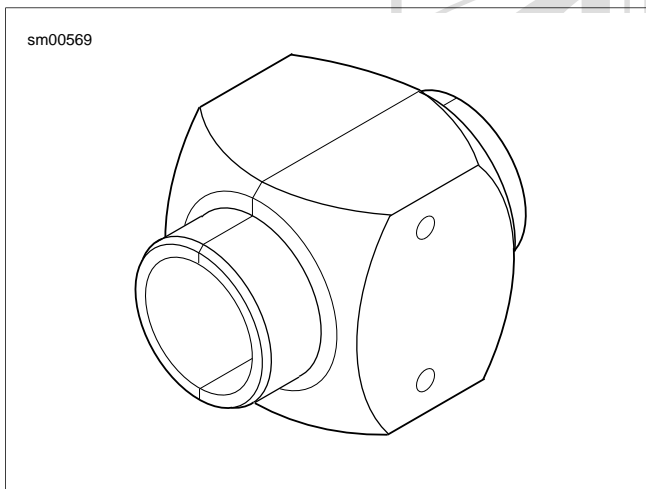

Figure 2-97. Fork Seal Driver
6. See Figure 2-97. Measure slider fork runout. Replace pipe if runout exceeds the service wear limit of 0.008 in. (0.2 mm).